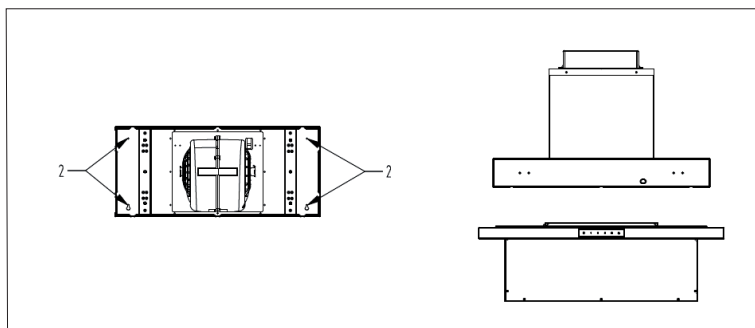

Fig. 5
4. Attach the top of the hood to the cabinet with four screws and then attach the bottom of the hood as shown in Fig. 5 and 6.